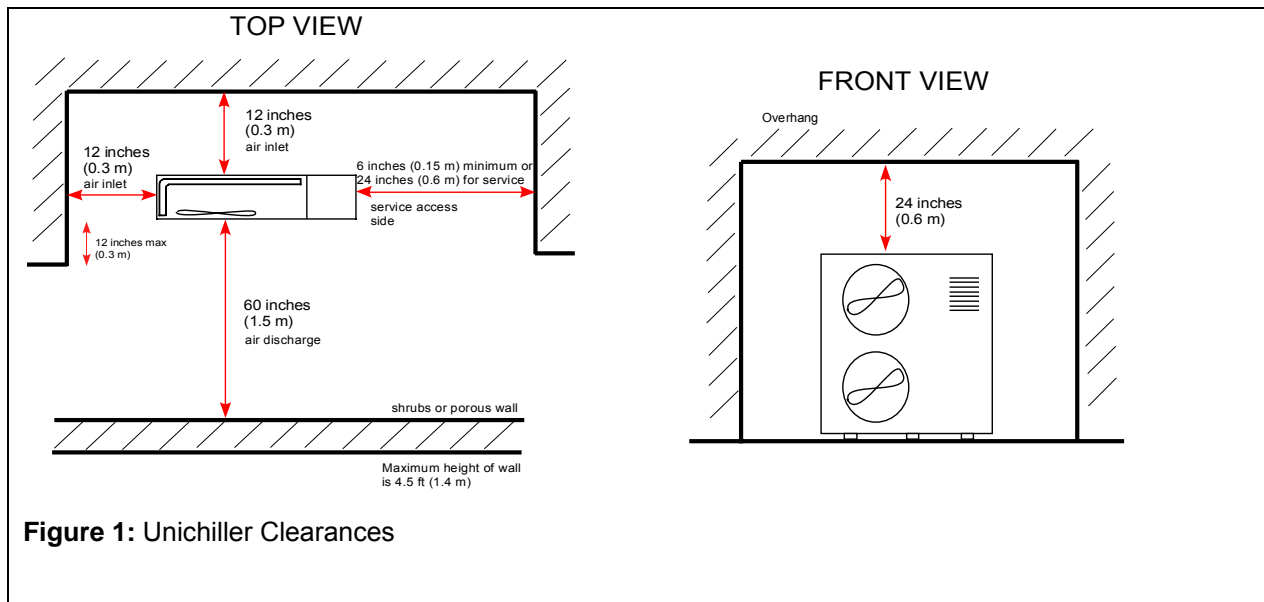

Figure 1: Unichiller Clearances
1. At least 24" must be available on the side of the chiller that accesses the control box, pump and compressor. See Figure 1.